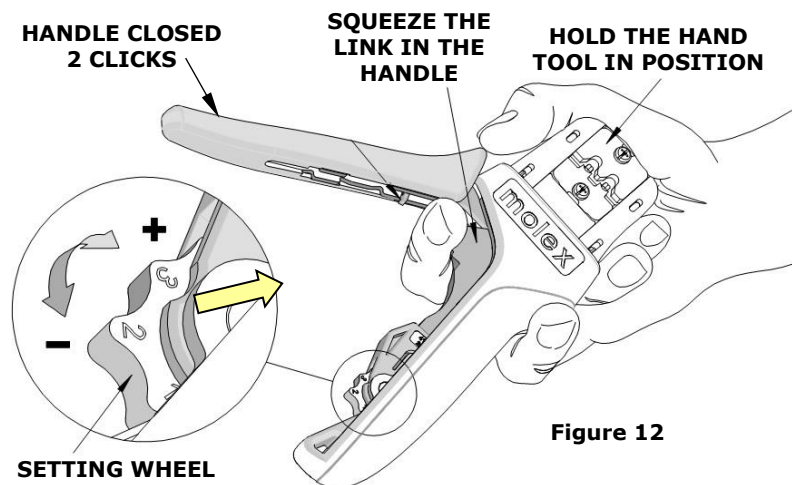

Figure 12
### How to Adjust Tool Preload (See Figure 12)
3. Hold the hand tool in the palm of your hand as shown in Figure 12. Using your index finger, squeeze the link toward the top of the hand tool frame. This will release the preload adjustment wheel.
4. Rotate the setting wheel counterclockwise (CCW) to increase handle force. The numbers will display higher. To decrease handle force, rotate the setting wheel clockwise (CW).